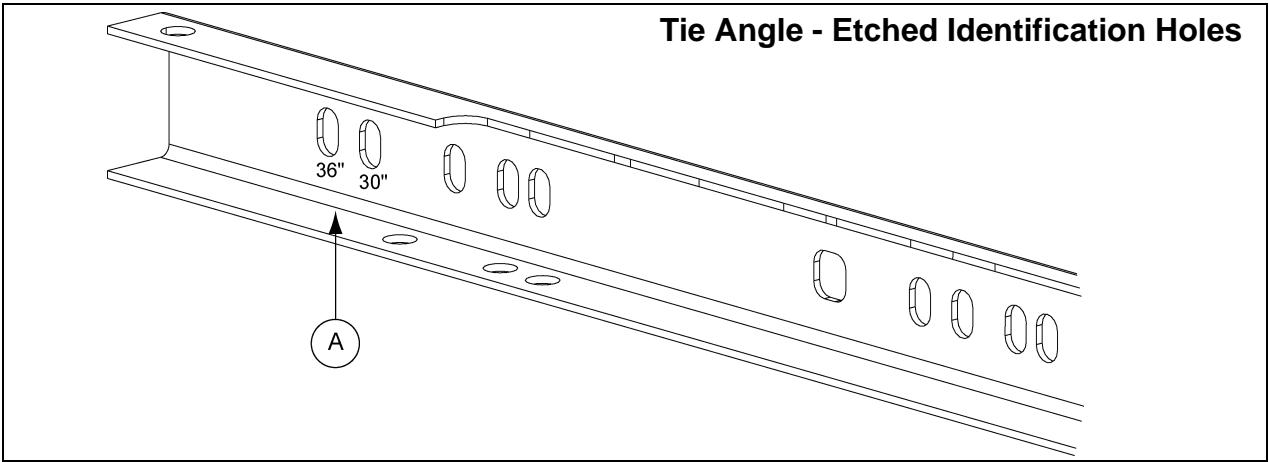

Figure 7A Tie Angle with Etched Numbers
1. Install rest platform tie angles (GECT1640FCRPX2) (A) to the lower trunking on both the ladder side and non-ladder side of the trunking. Use 1/2" x 1" bolts (S-7935) (B) through the bolt holes indicated for the bucket elevator size being installed. (See Figure 7A.)